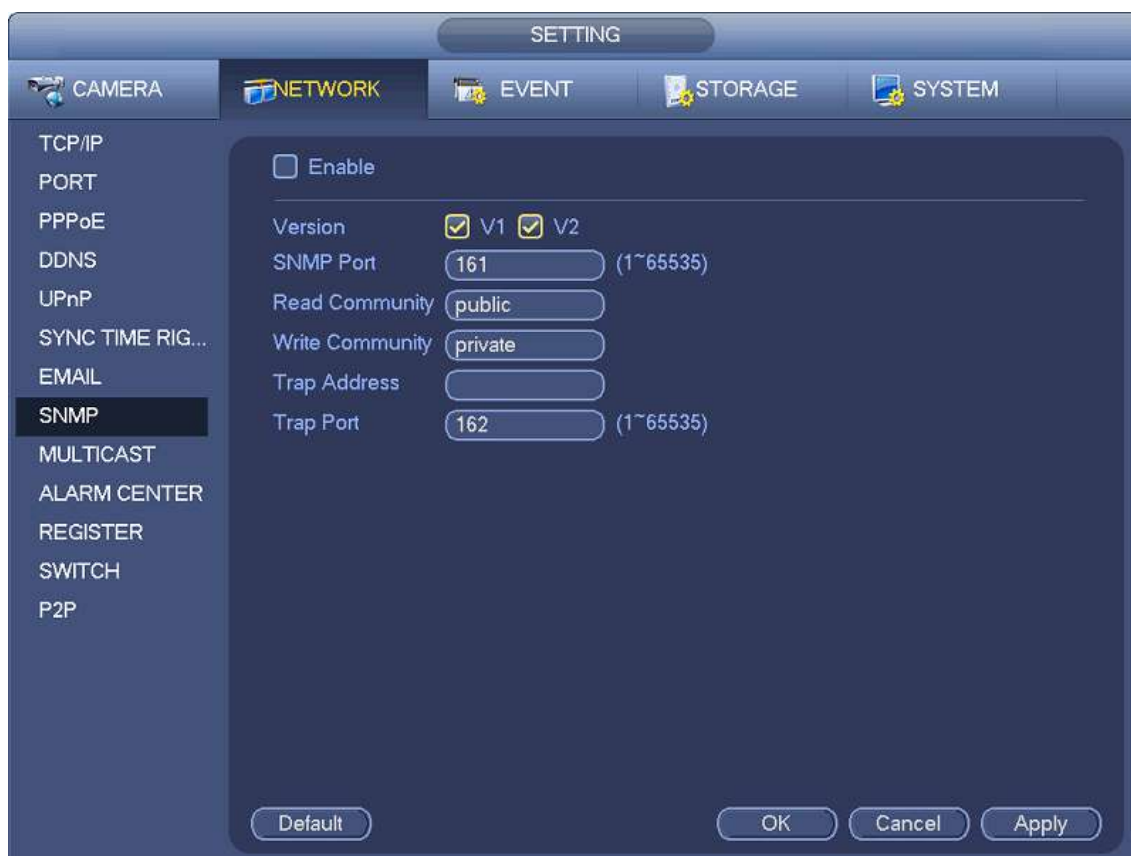

Figure 4-201
SNMP is an abbreviation of Simple Network Management Protocol. It provides the basic network management frame of the network management system. The SNMP widely used in many environments. It is used in many network device, software and system. You can set in the following interface. See Figure 4-201.
- In Figure 4-201, check the box to enable the SNMP function. Input the IP address of the PC than is running the software in the Trap address. You can use default setup for the rest items.